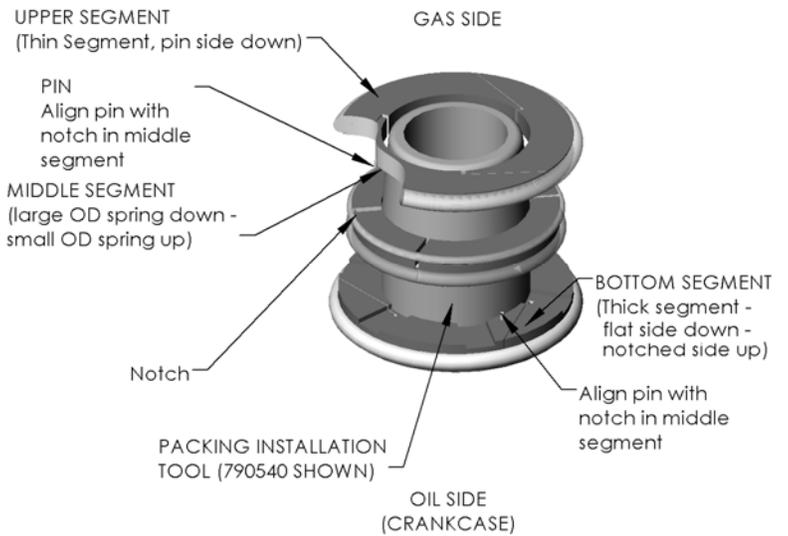

Figure 20b - S3R Oil Seal Installation
- Install the S3R seal in the seal cup as shown in figure 20a. Place the S3R seal on the packing installation tool in the order shown in figure 20b, with the upper segment toward the tapered end of the installation tool. Insert the installation tool, with the S3R seal, into the seal cup, with the tapered end toward the packing rings. Place seal cup cover on seal cup and secure with two capscrews